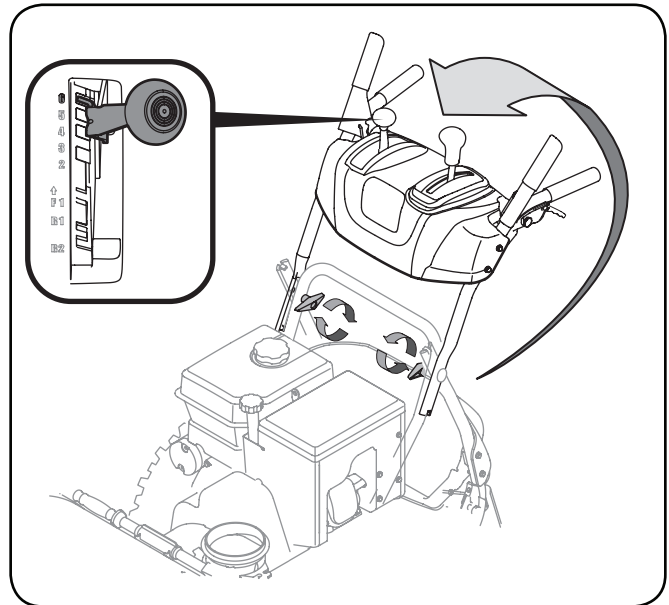

Figure 3-2
- Carefully pivot the handle upward. See Figure 3-2.
NOTE: Make certain the cables are seated properly in the roller guides. See Figure 3-2.